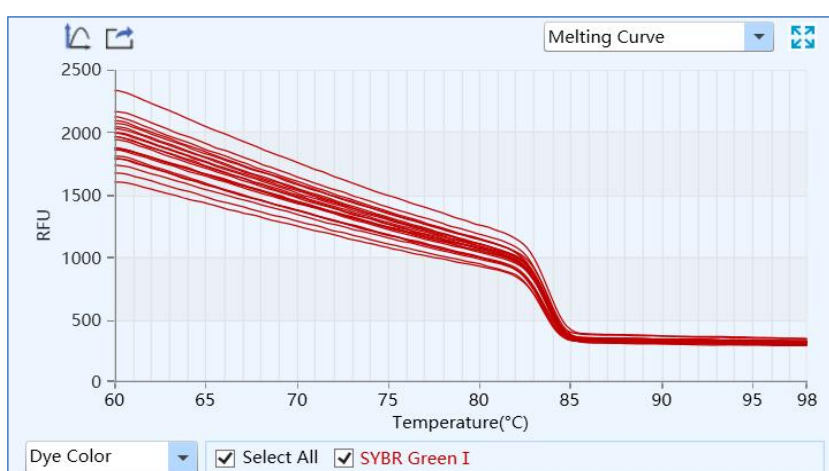

Figure D-13.1. Melting Curve Analysis Interface - Melting Curve Functional Module
**I. Melting Curve:** display the fluorescence intensity against the temperature, as shown in figure D-13.1.